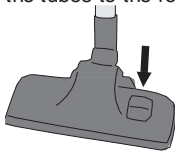

Figure 4
4. Press the foot button on the nozzle to set the combi nozzle for use on hard or soft surfaces, see Figure 4. For use on hard surfaces, press the foot button on the combi nozzle to extend the brushes. Lift the button for use on soft surfaces.